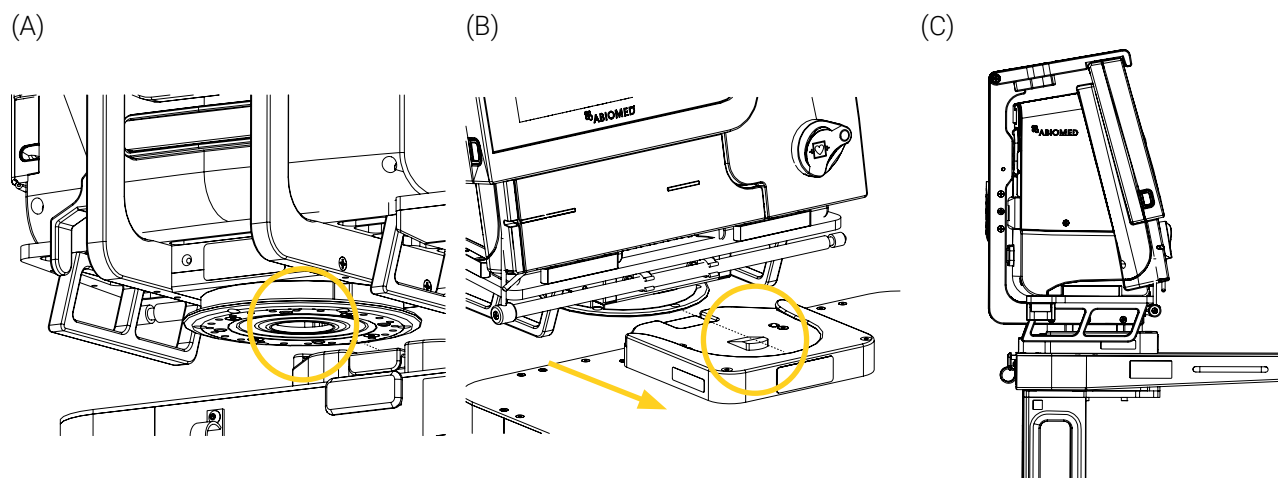

Figure 42: Installing the medical device in the Standard Surface Base/Micro Base
1. Align and insert the standard bottom disc/micro disc of the medical device's mounting bracket in the Standard Surface Base/Micro Base horizontally until you hear the click sound (Figure 42). Refer to the « Activate the Safety Mechanism of the Standard Surface Base/Micro Base » section on page 33 and the Standard Surface Base/Micro Base's User Manual if needed.